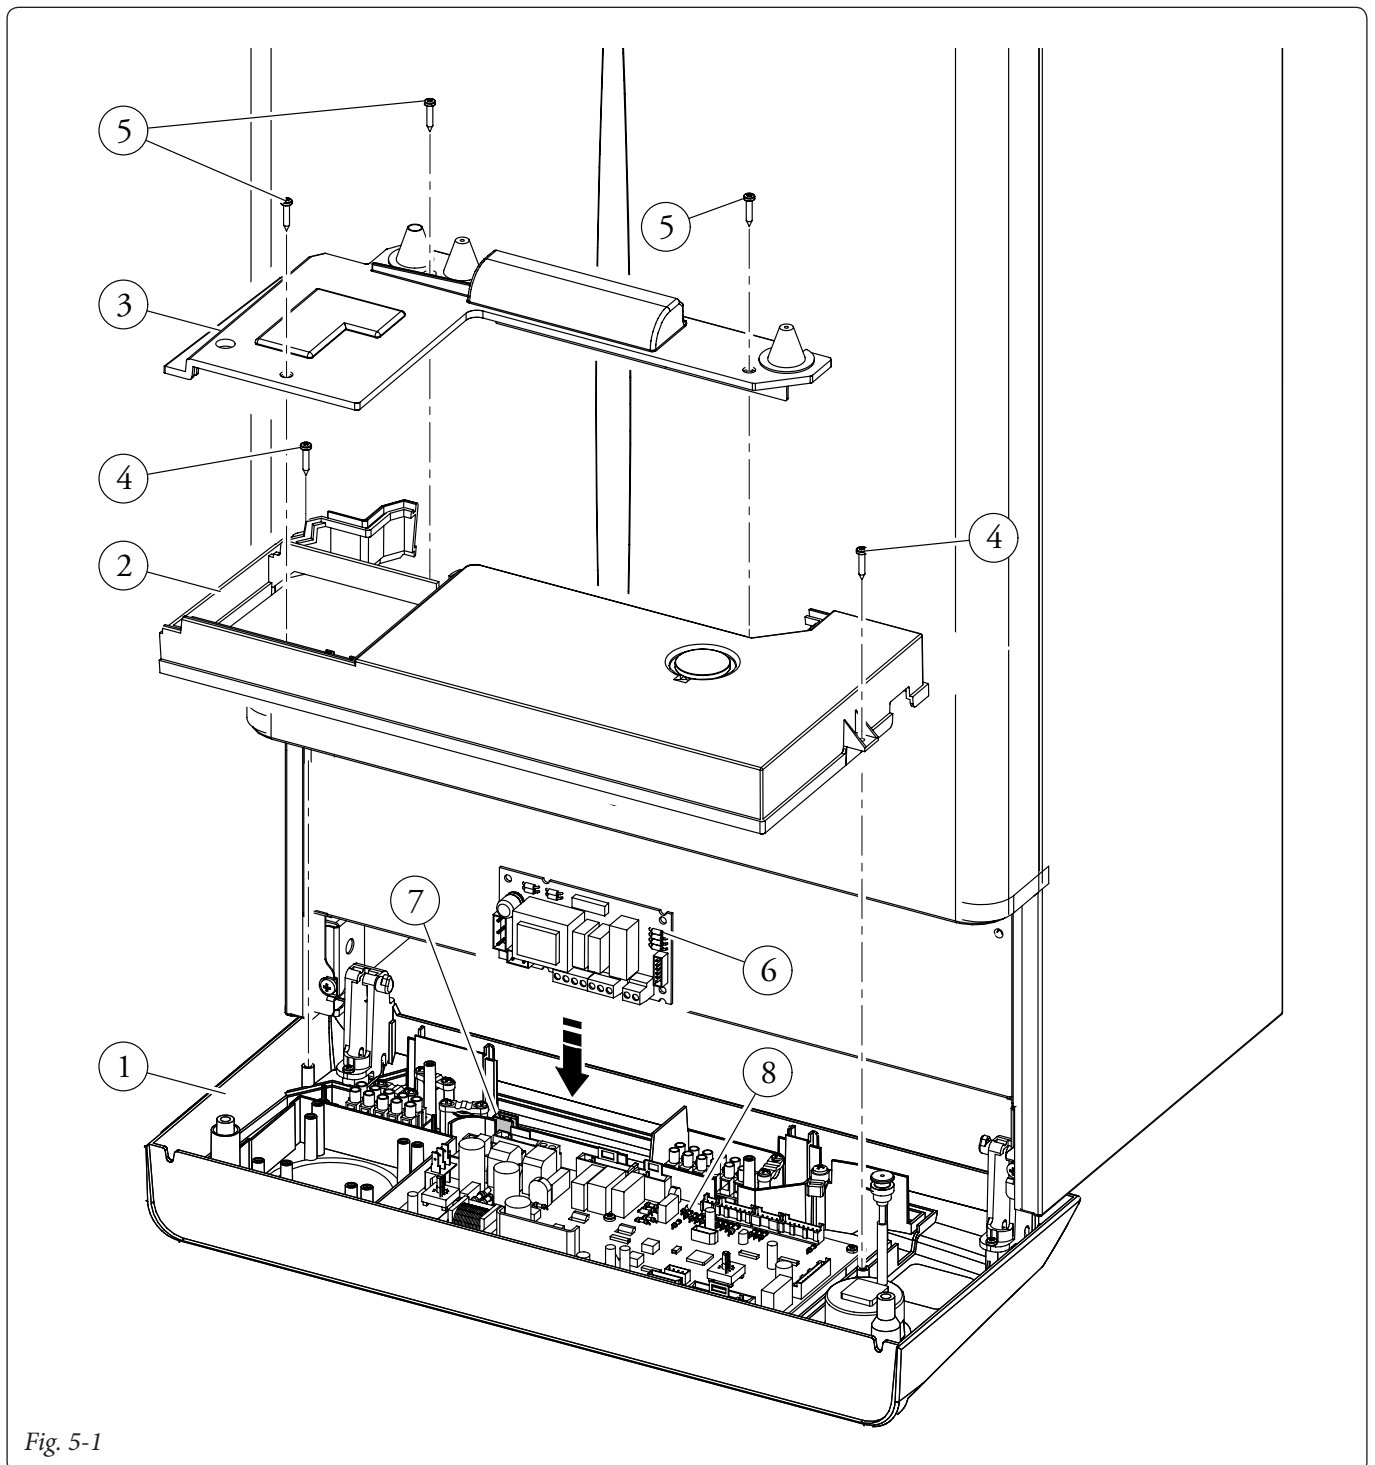

Fig. 5-1
- Open the control panel (1) tilting it as prescribed in the boiler instruction booklet.
- Open the control panel (1) (see Figure 5-1) unscrewing the screws (5) and (4).
- Perform the electrical connections between the relay board (6) and the electronic adjustment card (8) using the two wires present inside the unit. Connect the external components according to requirements following the wiring diagrams given on the next pages.
- Place the relay board (6) in the dedicated seat (7).
- Close the control panel (1), paying attention not to crush the cables present. Re-apply voltage to the unit to return to normal operation.